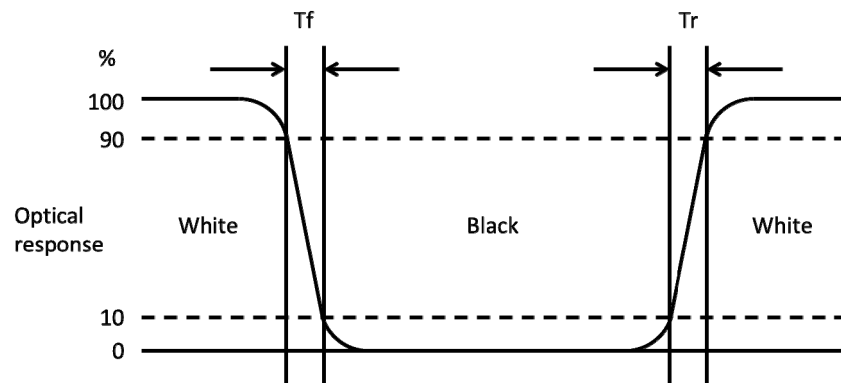

FIG. 3 Response Time
3. The output signals of photo detector are measured when the input signals are changed for "White" to "Black" (falling time) and from "Black" to "White" (rising time), respectively. The response time Interval is between 10% and 90% of amplitudes, see the FIG.3.